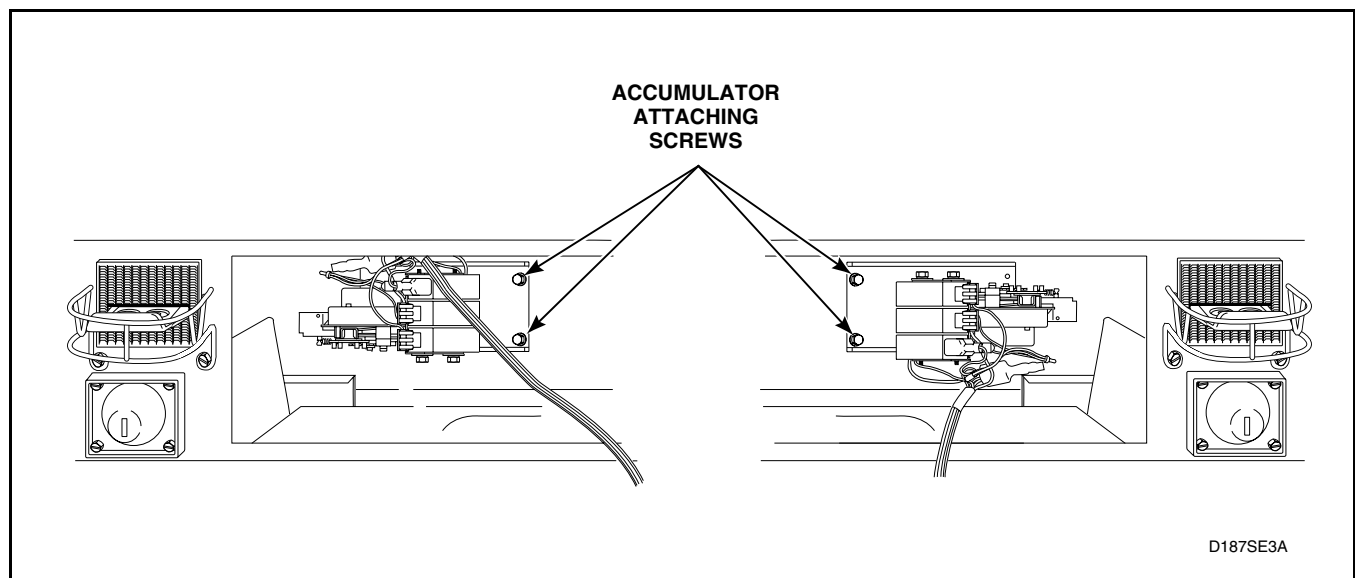

Figure 17
- d. Reach in through control panel opening and remove screws holding accumulator and mounting bracket to the control cabinet. Refer to *Figure 17*.